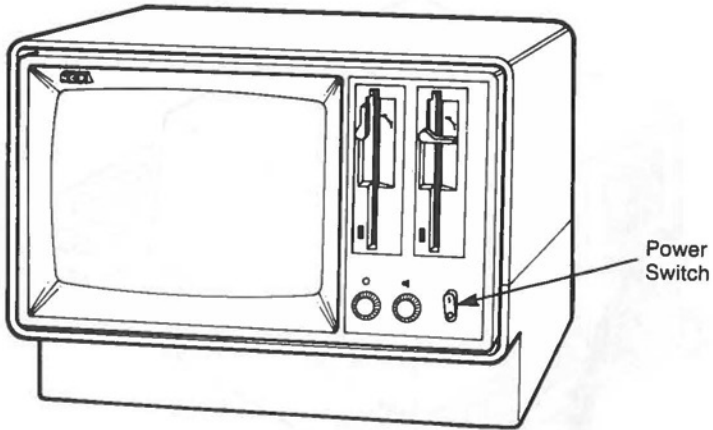

Figure 2-2 Power Switch
5. Make sure the power switch on the front of your computer is in the OFF position before you plug in the power cord (see Figure 2-2).